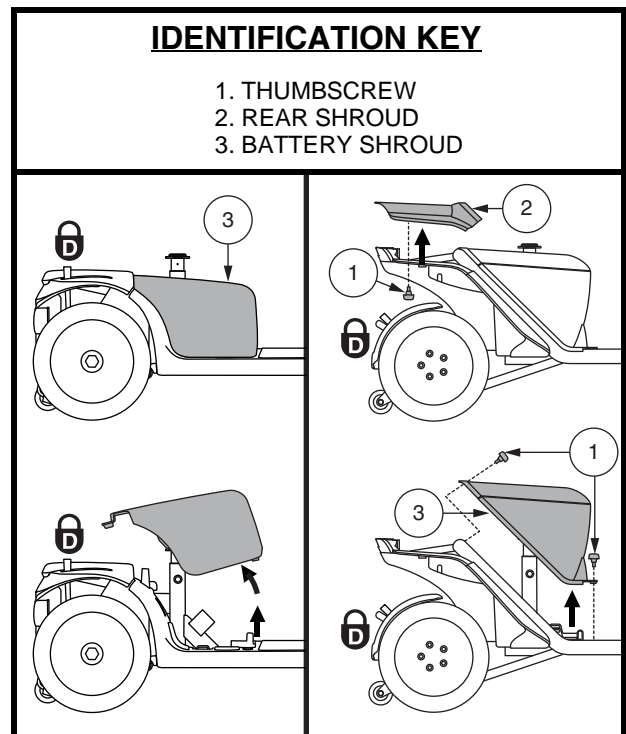

Figure 13. Battery Shroud Removal/Installation
1. Remove the seat and battery shroud. See figure 13.
- a.) For models 614 and 714, remove the rear shroud by removing the two (2) thumbscrews that secure it to the scooter frame, and then lifting the shroud straight up and off of the scooter. See figure 13.
- b.) For models 614 and 714, remove the battery shroud by removing the four (4) thumbscrews that secure it to the scooter frame, and then lifting the shroud straight up and off of the scooter. See figure 13.